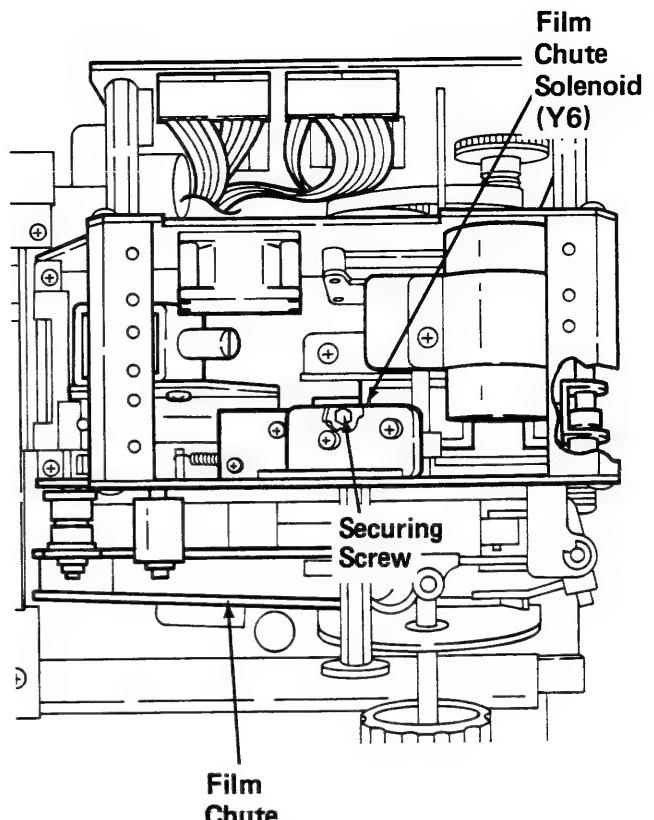

Figure 3-12B
5. Loosen the Securing Screw securing the Chute Solenoid (Y6) to the Film Chute Linkage (Figure 3.12B).